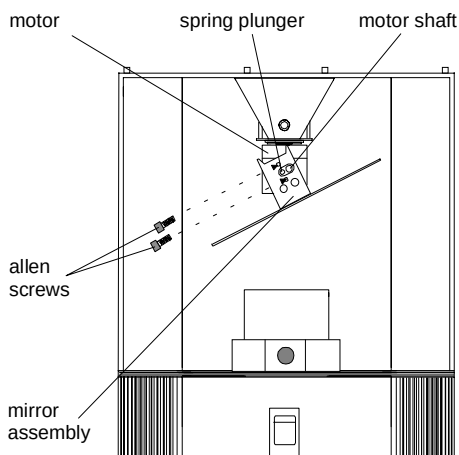

Figure 3-8. Installing a new mirror
3. Use a 7/64-inch allen wrench to remove the two allen screws that secure the mirror assembly to the motor (see Figure 3-8). Set the screws aside.